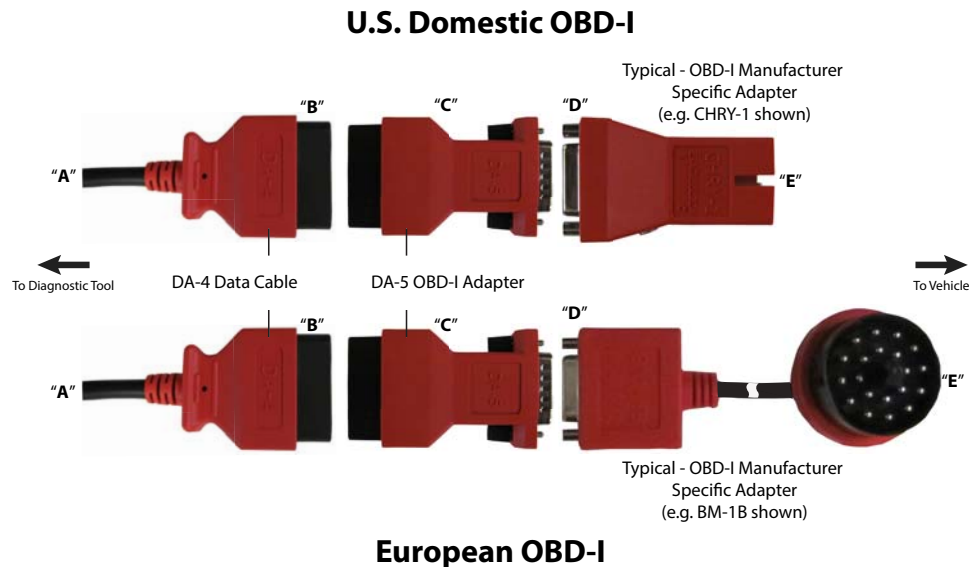

Figure 4-6 Typical connections using DA-5 adapter (two examples)
For most OBD-I (non-OBD-II/EOBD) compliant vehicles you can use the supplied DA-4 data cable with the optional DA-5 adapter and an optional manufacturer specific OBD-I adapter (*Figure 4-6*).
- The 26-pin end "A" of the DA-4 cable (*Figure 4-6*) connects to the diagnostic tool.
- The 16-pin end "B" of the DA-4 cable (*Figure 4-6*) connects to the DA-5 adapter "C".
- One end of the manufacturer specific adapter "D" (*Figure 4-6*) connects to the DA-5 adapter.
- The other end of the manufacturer specific adapter "E" (*Figure 4-6*) connects to the vehicle.